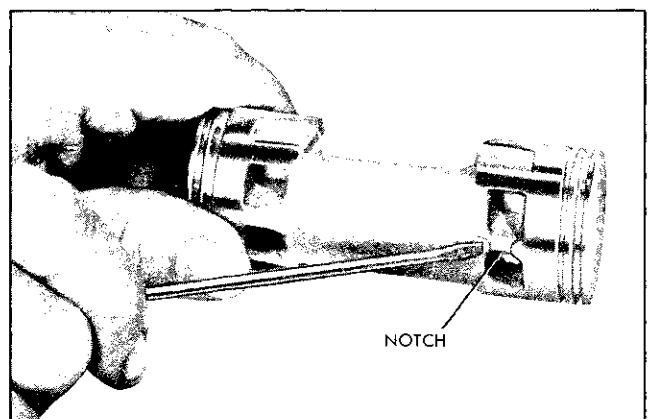

Fig. 1A-25 Identification of Front End of Piston
9. Remove rear combination of thrust races and thrust bearing. Discard all three pieces (Fig. 1A-26).